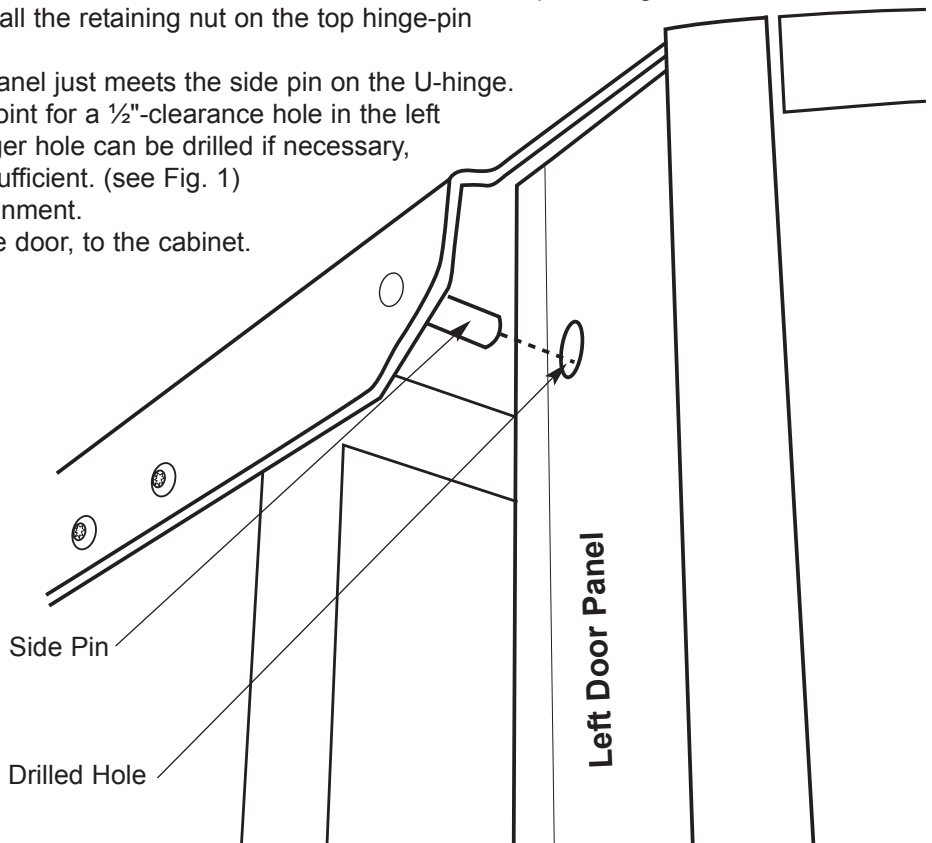

Figure 1
12. Use a center punch to mark the center-point for a 1/2"-clearance hole in the left door panel, and then drill the hole. A larger hole can be drilled if necessary, but if the hole is properly located, 1/2" is sufficient. (see Fig. 1)